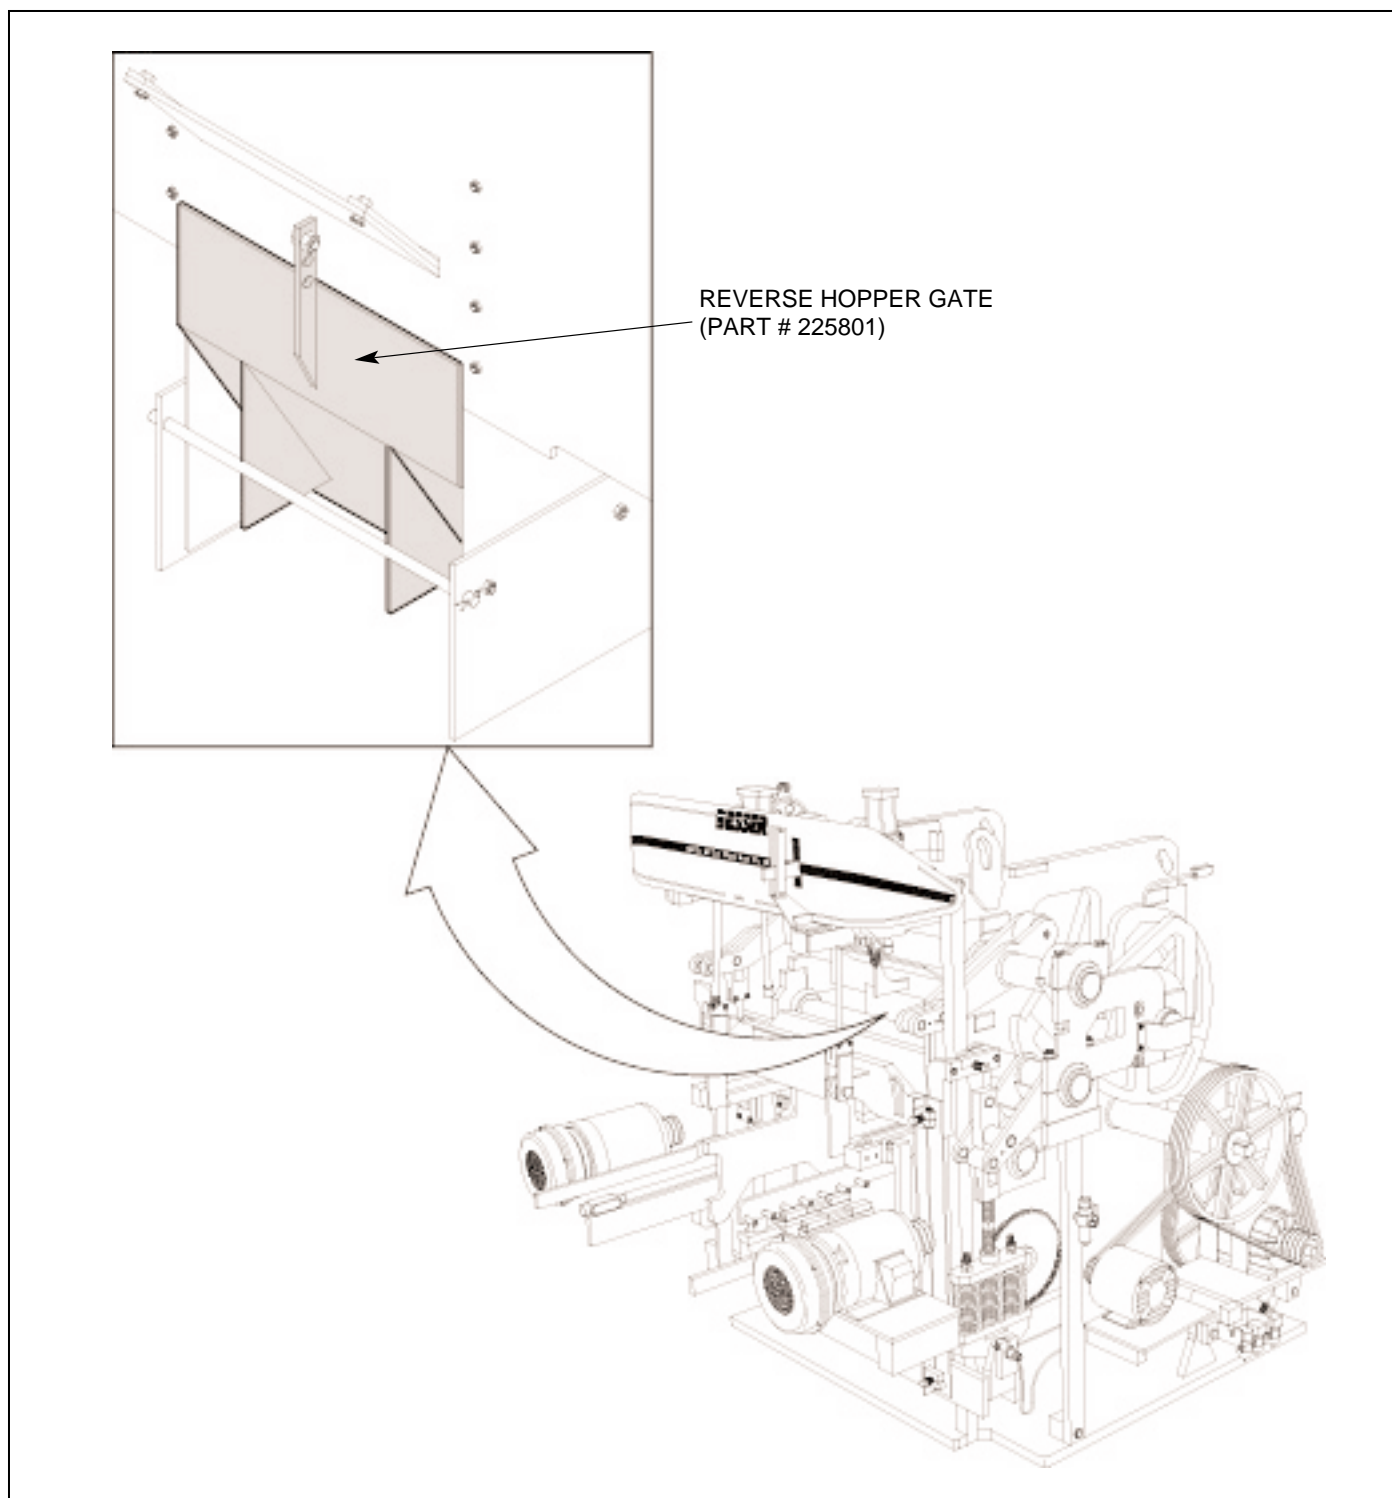

Figure 4.4 REVERSE HOPPER GATE
4.1.7 Install the reverse hopper gate (**part #225801**). See figure 4.4.